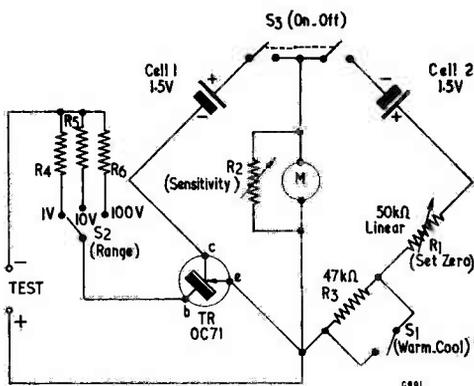
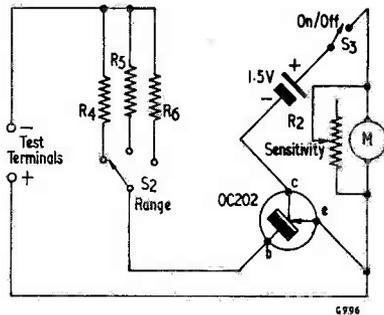

Fig. 1. Circuit of the High Impedance Transistor Voltmeter. The values of the unmarked components differ in versions "A" and "B". (See Components List)
Fig. 6. A more simple circuit which requires a silicon transistor
The circuit of the instrument is shown in Fig. 1. Let us first consider the case when the test terminals are not connected to any circuit. The transistor base current will then be zero and the leakage current will flow from Cell 1 through the transistor collector-emitter circuit. In order to obtain a meter reading of zero at zero input voltage, it is therefore necessary to balance this leakage current by an opposite current from Cell 2. The potentiometer R_1 is adjusted until the current through it just balances the transistor leakage current; that is, until a zero reading is obtained when the input voltage to the test terminals is zero.
- (1) A range to measure up to 1,000 volts could be added. An extra position on the switch S_2 would be required and an extra resistor connected to the switch contact. The value of this resistor is $22M\Omega$, 5% for the version "A" or $150M\Omega$, 1% for version "B". Other intermediate ranges could be added if desired.
- (2) If an OC44, OC170 or OC171 transistor is used, the current gain is approximately doubled. A meter which is half as sensitive as those suggested could then be used or alternatively the values of R_4 , R_5 and R_6 could be doubled. This would double the impedance of the instrument.
- (3) An OC202 high gain silicon transistor (current gain = 70) could be used in the simpler type of circuit shown in Fig. 6. Silicon transistors have a negligible value of leakage resistance and therefore the part of the Fig. 1 bridge circuit which is used to balance out the leakage current of the transistor can be omitted. The modified circuit of Fig. 6 is easier to use, as no zero setting control is employed. Unfortunately high gain silicon transistors are still more expensive than equivalent germanium types.
- (4) A semi-conductor diode may be included in the input circuit so that measurements of alternating voltages may be made. The scale will require some modification by the inclusion of an extra resistor for alternating voltage measurements.
Components List (Fig. 1)